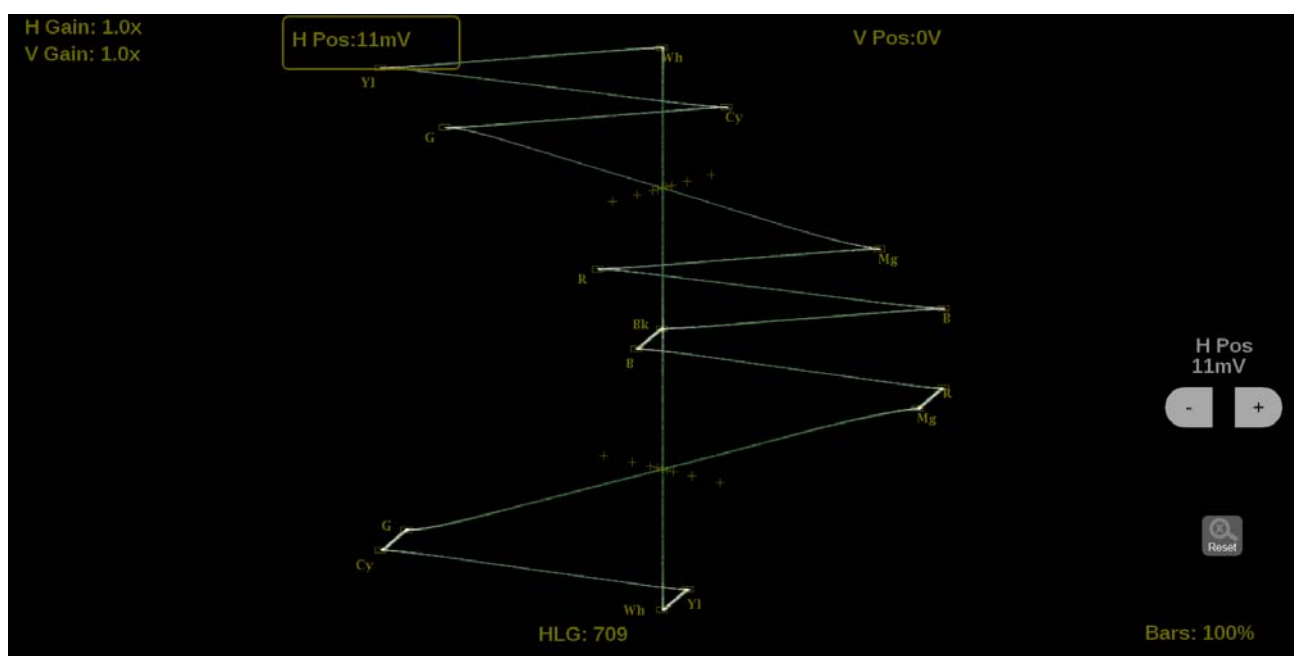

Figure 111: Lightning on-screen tools – horizontal position
1. Touch the **H Pos** button to allow adjustment of the horizontal trace. (See Figure 111.)